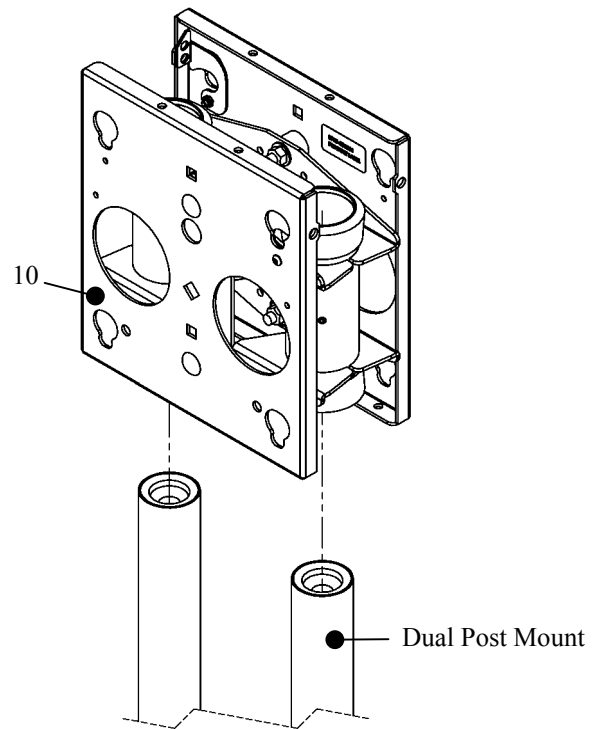

Figure 3. Mount the MAC-143
2. Install the MAC-143 (10) onto the dual post as shown in Figure 3.
3. Adjust the MAC-143 (10) to the desired height on the dual post.